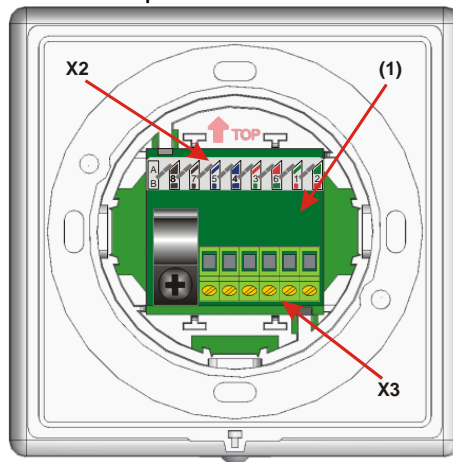

Fig. 3 Backside view with the fitted connection board (1)
- Snap in the connection board from the back side into the lower housing (see Fig. 3)